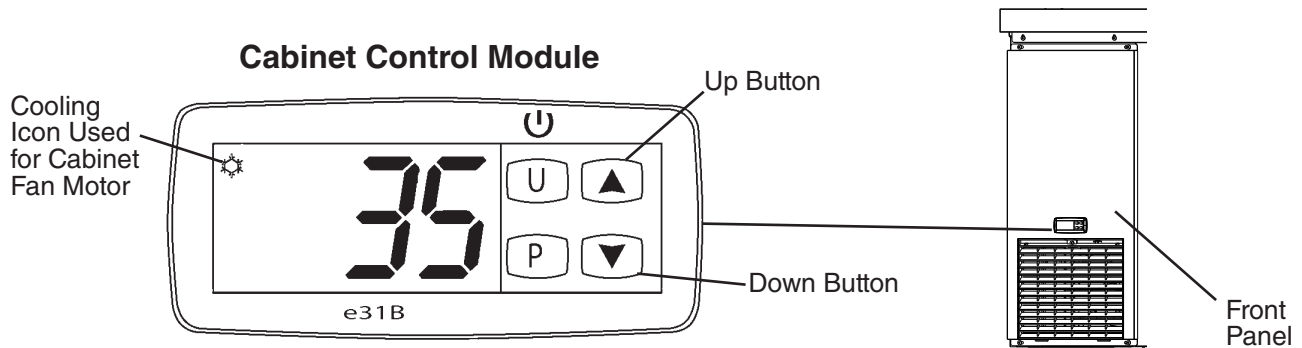

Fig. 45
- a) **Cabinet Temperature Setpoint Adjustment:** The cabinet temperature is displayed on the control module. To change the cabinet temperature setpoint, press the up arrow and release. See Fig. 45. SP1 and the cabinet setting flashes. Press the up or down arrow button to the desired temperature setpoint. 5-sec. later, the temperature setpoint is saved and the display returns to normal display. **NOTICE! Do not adjust the temperature setpoint more than 2°F (1°C) at a time. Allow the temperature to stabilize for a minimum of 8 hours before making further temperature setpoint adjustments.**